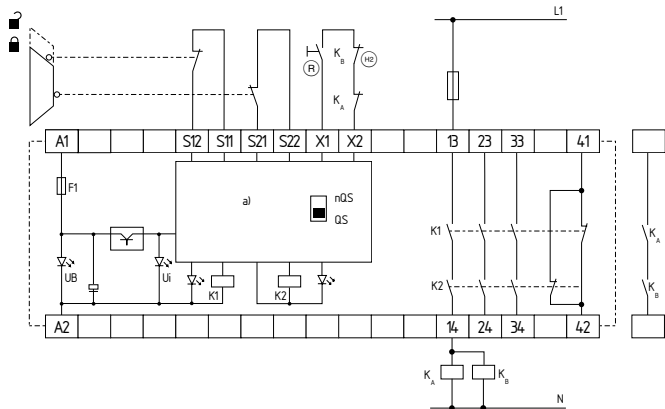

Fig. 4
**Dual-channel control, shown for a guard door monitor with two position switches where one has a positive break contact; with external reset button (R) (Fig. 4)**
- (R) = Feedback circuit